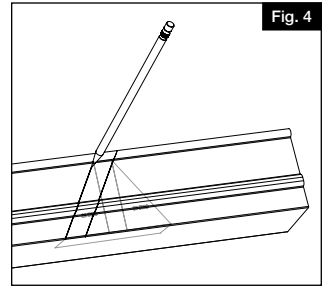
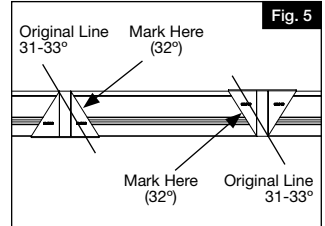

Fig. 4
Fig. 5
Place bottom rail across post opening leaving equivalent spacing from the last baluster and post on each end (Fig. 3). Mark 2" from end of post to allow room for bracket width and expansion (Fig. 4). Align top rail with bottom rail and cut both rails with miter box or hacksaw (See blade manufacturer's specs for correct blade) (Fig. 5).
- From the original line created by the post, mark another line $\frac{1}{16}$ " on the inside of the bottom rail (closer to the baluster routes) (Fig. 4). This is accomplished by using the angle template (Fig. 5). This additional removal of material will allow for bracket clearance when the rail is installed. For this 31°-33° angle, the new line will be parallel to the previously drawn line.